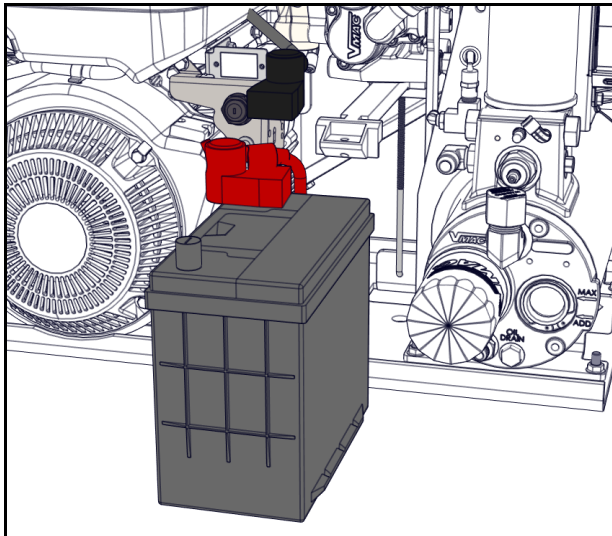

Figure 68 – Battery removal
- 2) Pull the battery out of the front of the unit, once it is clear, disconnect the positive battery terminal (Figure 68).